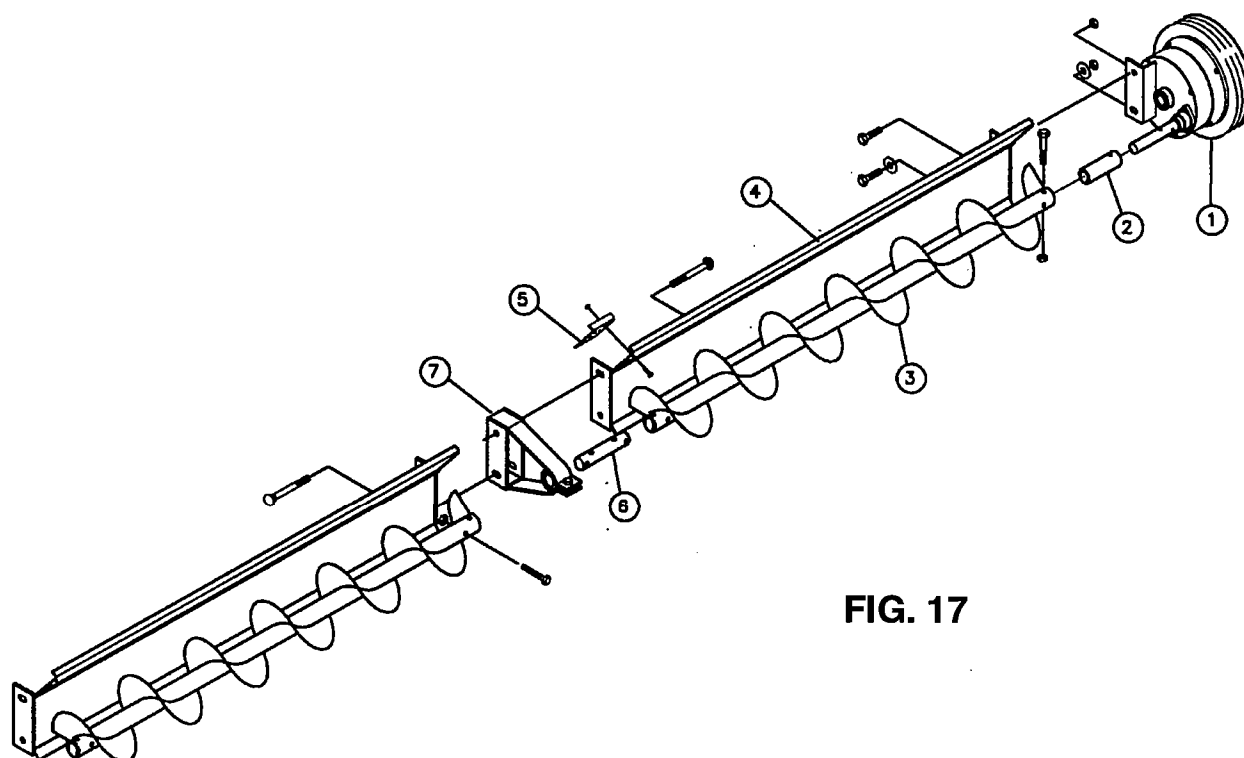

FIG. 17
10. Assemble the sweep wheel to flight and shield. (See Fig. 17.) Add grease to sweep wheel drive enclosure. (See page 11.)